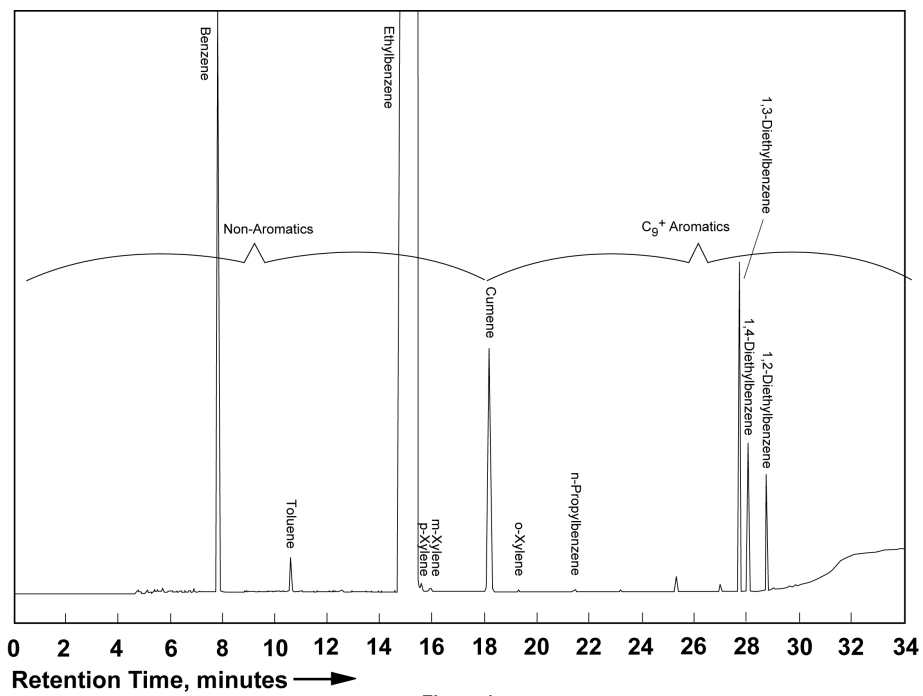

Figure 1
- Different conditions may be used provided they produce the required sensitivity and chromatographic separations equivalent to those shown in the Typical Chromatogram (Figure 1).
- A typical chromatogram is shown in Figure 1.